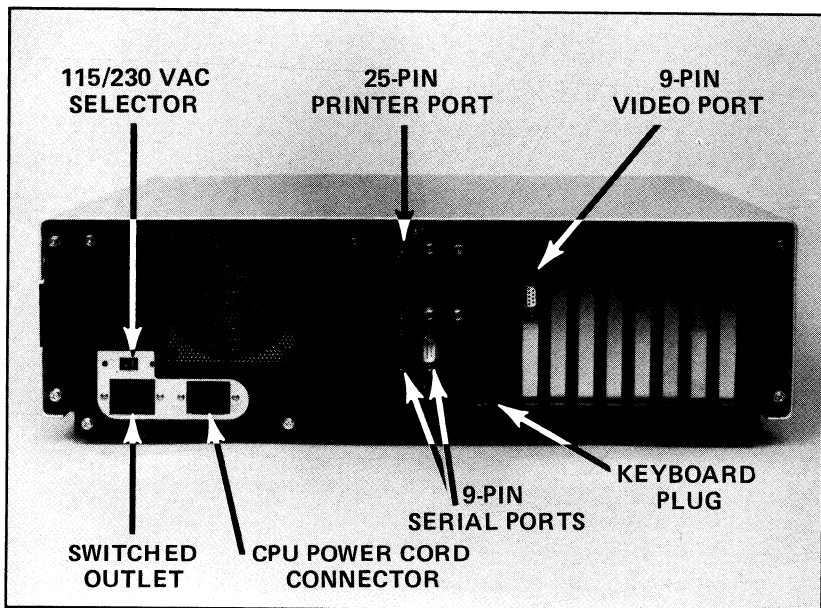

Figure 3-1. The Workstation Rear Panel
2. Locate the monitor video cable and connect the system end of it to the 9-pin female video port on the rear panel of the computer, as shown in Figure 3-1.
1. Connect the female end of the power cord to the three-prong male outlet on the rear panel of the computer, as shown in Figure 3-1.